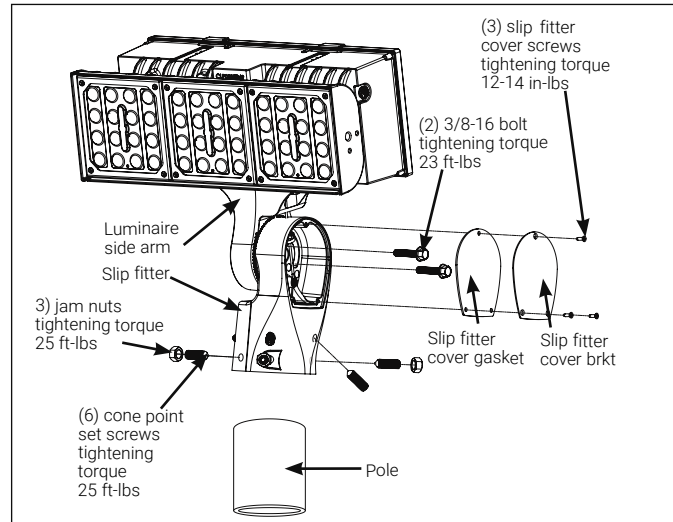

Figure 4.
Slip Fitter Mounting (Figure 4, 5)
- Once fixture is oriented properly, hand tighten the (3) angled set screws to secure fixture in place. Hand tighten the lower (3) set screws and then torque the upper angled set screws to 25 ft-lbs. Install (3) hex nuts to the lower set screws and torque both the (3) set screws and (3) nuts to 25 ft-lbs (Fig 4).
- Loosen the (2) 3/8-16 located in the slots to make angle adjustments to the fixture. After angle adjustments have been made, torque to 23 ft-lbs. The fixture can be adjusted from -10 degrees to 80 degrees from horizontal.
- Replace the access cover to the arm. Tighten the (3) #8 screws and torque to ~12 to 14 in-lbs.